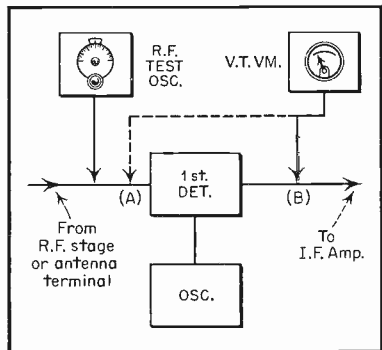

Fig. 6.
6. Conversion Gain. Use the arrangement shown in Figure 6. Set the oscillator to any clear frequency within the tuning range of the receiver and use either a modulated or unmodulated signal. Connect the v. t. voltmeter first to point B at the 1st i. f. control grid. Tune the receiver for maximum deflection of the meter and advance the test oscillator output to give a meter deflection of 0.05 to 0.1 volt r. m. s. At this point, record the microvolts setting of the attenuator as E_1 . Transfer the voltmeter to point A at the control grid of the 1st detector and read the voltage at this point as E_2 . Determine the conversion gain by dividing E_1 by E_2 : E_1/E_2 .